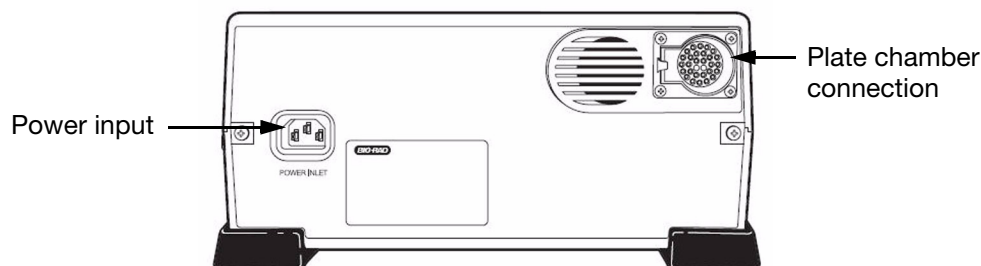

Figure 1. Rear panel of Gene Pulser MXcell power module.
1. Attach the power cord to the back of the Gene Pulser MXcell power module (Figure 1):